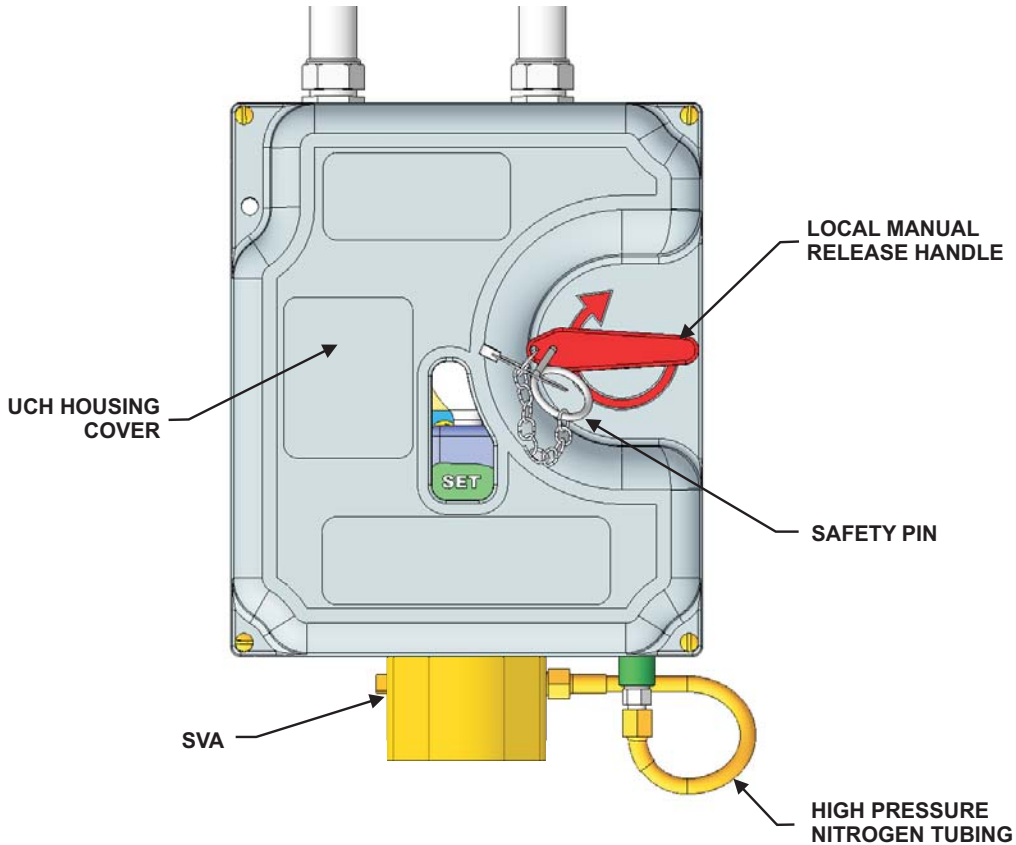

Figure 4-83. UCH Control System, Cover Attached
2. Locate the cover of the UCH Control System. Ensure that the local manual handle is set and that the Safety Pin is inserted (see Figure 4-83). The handle should be locked in the set position. If the handle can turn, adjust until the pin can be inserted all the way through the handle into the body of the cover.